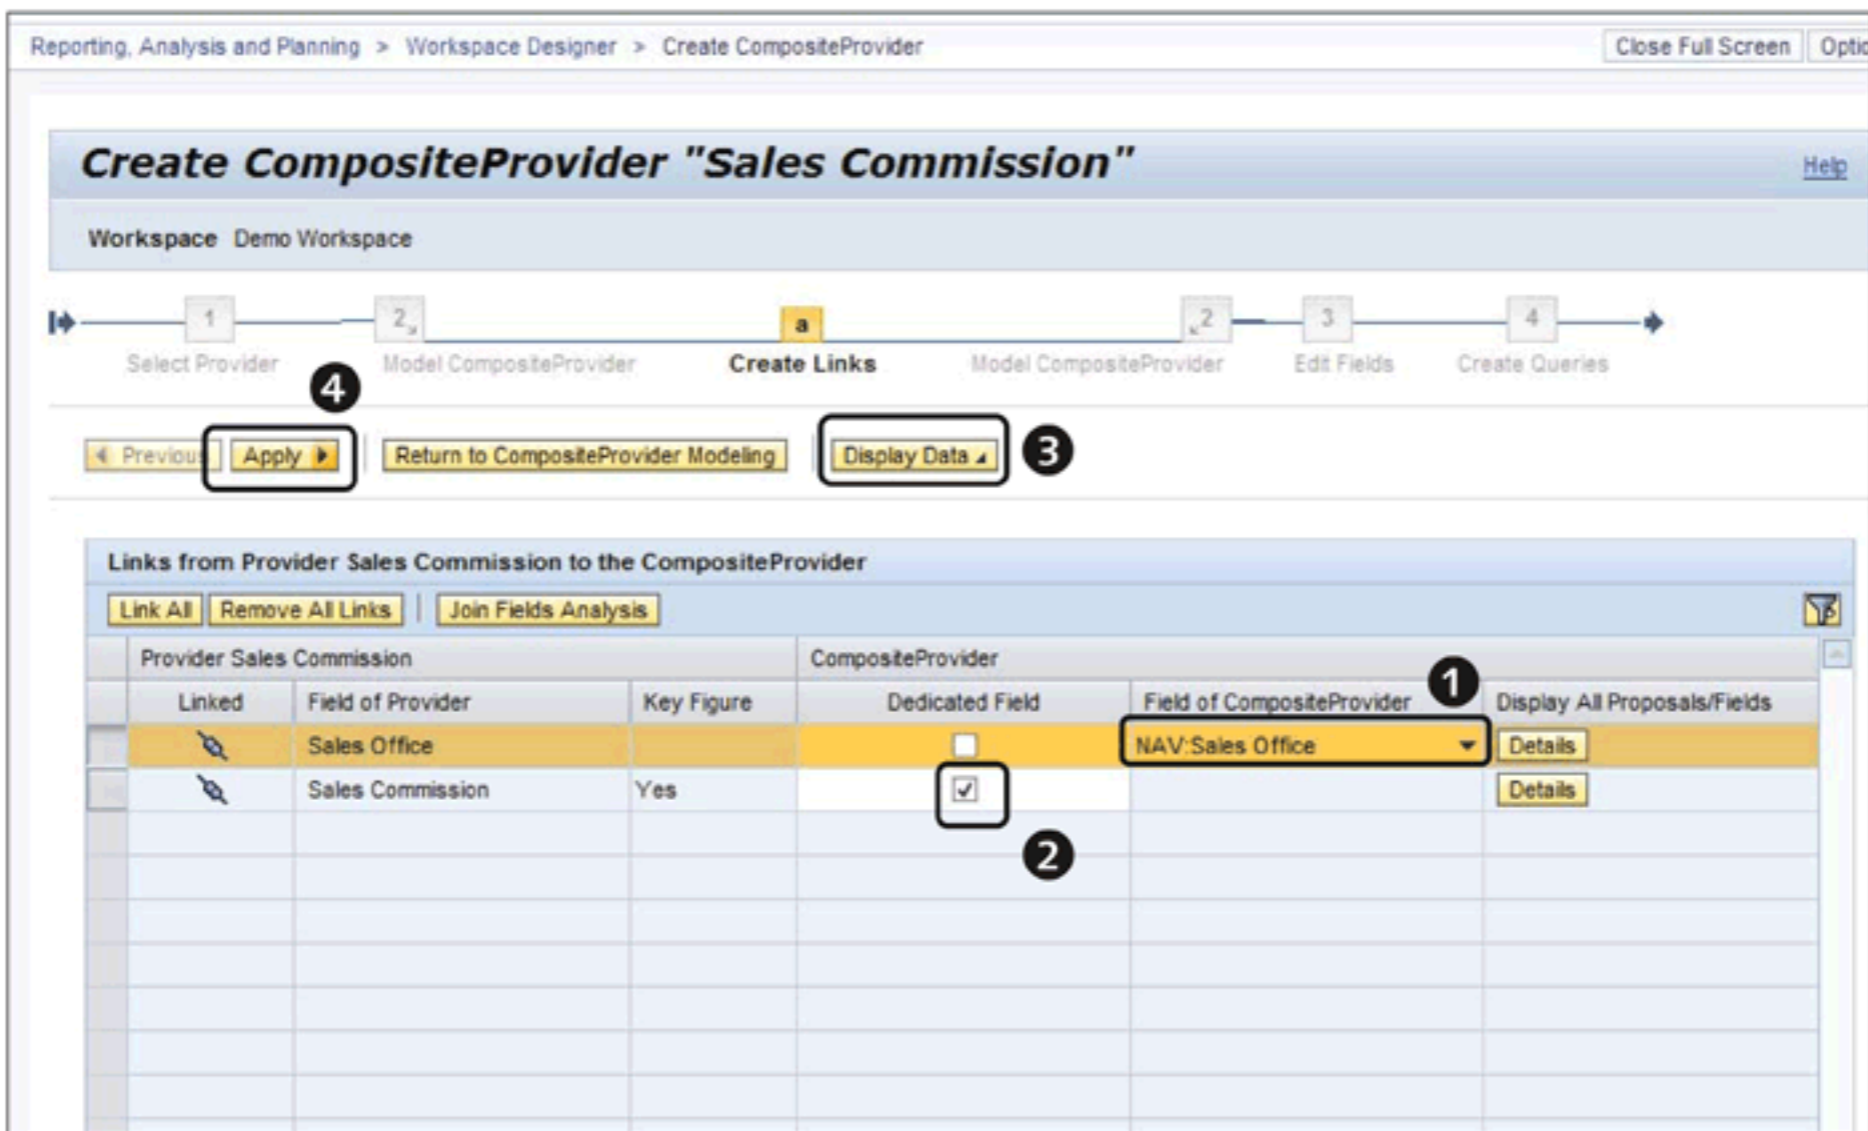
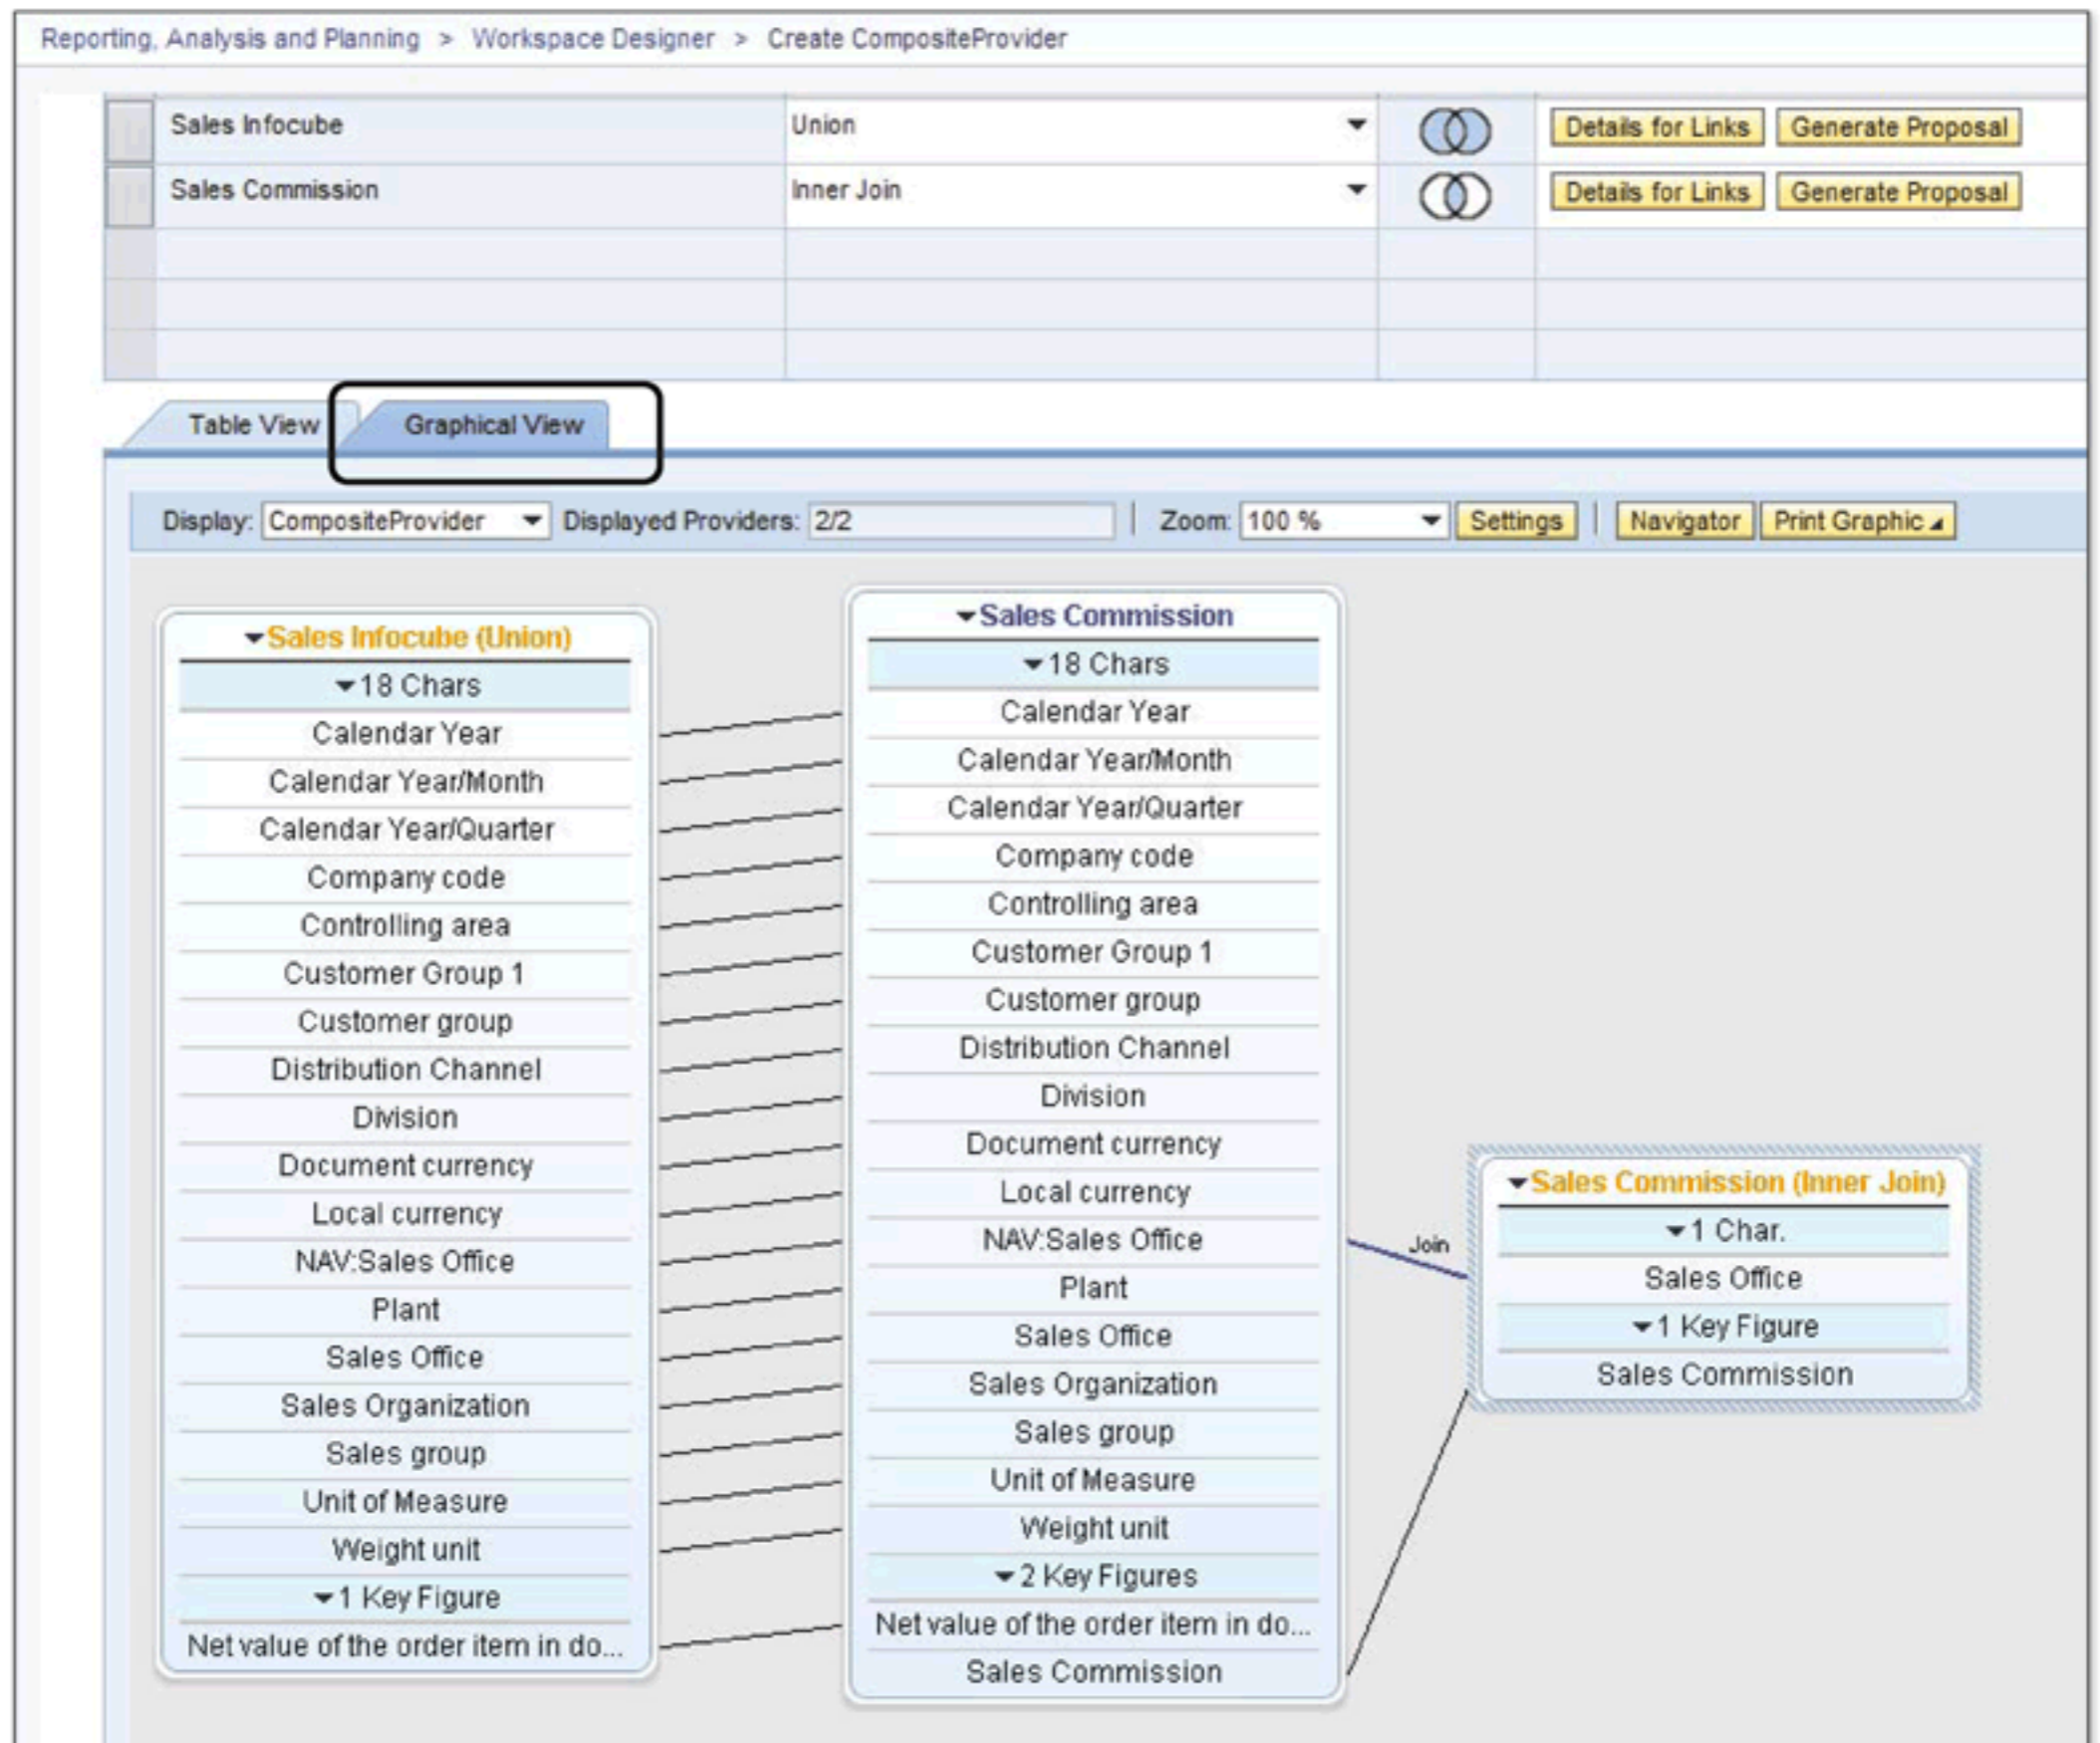

Figure 10.78 Define Links for Composite Provider
Figure 10.79 Composite Provider: Graphical View
You can either ask the system to generate a proposal for links by clicking on the GENERATE PROPOSAL button, or define the links yourself by clicking on the DETAILS FOR LINKS button (2). This action will navigate you to the screen where link details are maintained (Figure 10.78).
Again, for our example requirement from ABCD Corp., we need to get the sales commission percentage value for each sales office from the sales commission provider. Therefore, the SALES OFFICE field from the SALES COMMISSION PROVIDER is mapped to the SALES OFFICE field from the COMPOSITE PROVIDER (1 of Figure 10.78). The other field, SALES COMMISSION, is coming solely from the SALES COMMISSION PROVIDER; hence the checkbox for DEDICATED FIELD is checked for this key figure (2 of Figure 10.78). To validate the links you have defined, you can preview the data by clicking on the DISPLAY DATA button. Click on the APPLY button to confirm the link definition (4). This will take you back to the MODEL COMPOSITE PROVIDER screen. Now, you can select the GRAPHICAL VIEW tab to see the pictorial definition of the COMPOSITE PROVIDER (Figure 10.79).